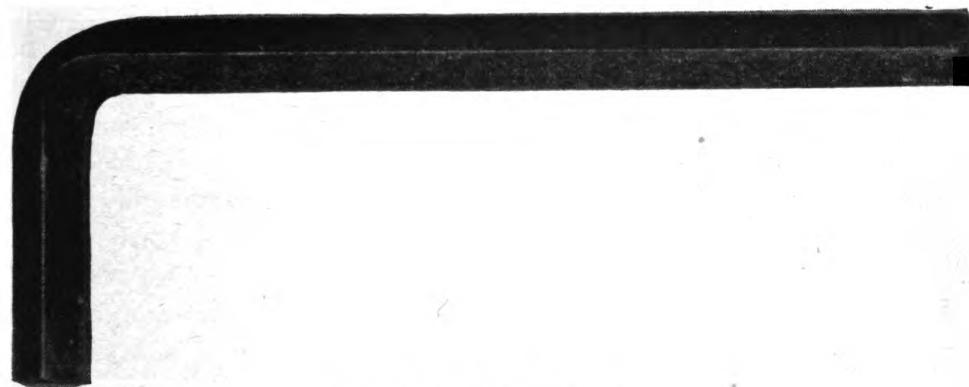

Figure 8. Allen wrench.
(5) *Headless hexagon setscrew wrenches (also called Allen wrenches)* are merely six-sided bars in the shape of an L. (See fig. 8.) They range in size from $\frac{3}{64}$ to $\frac{1}{2}$ inch. They fit into hexagonal recesses, usually in setscrews.